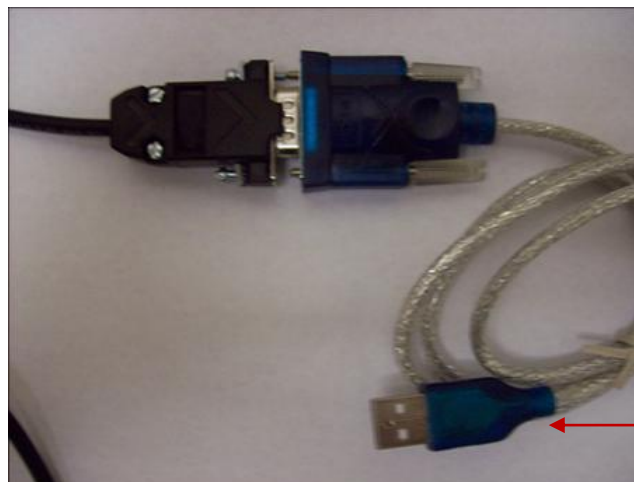

Figure 36: LMU-26xx DB9 Serial Connection
- Choose the appropriate COM port on the laptop device. If there is no available serial port, use a serial to USB adapter (Figure 36). These are readily available for purchase either online or in retail electronic product stores.
2. Connect the vPOD Adapter's 5-pin serial connector to the LMU-26xx AUX2 connector of wiring harness 5C908, 5C260 or 5C261, see section 3.1 "Available Wiring Harness" (Figure 36).